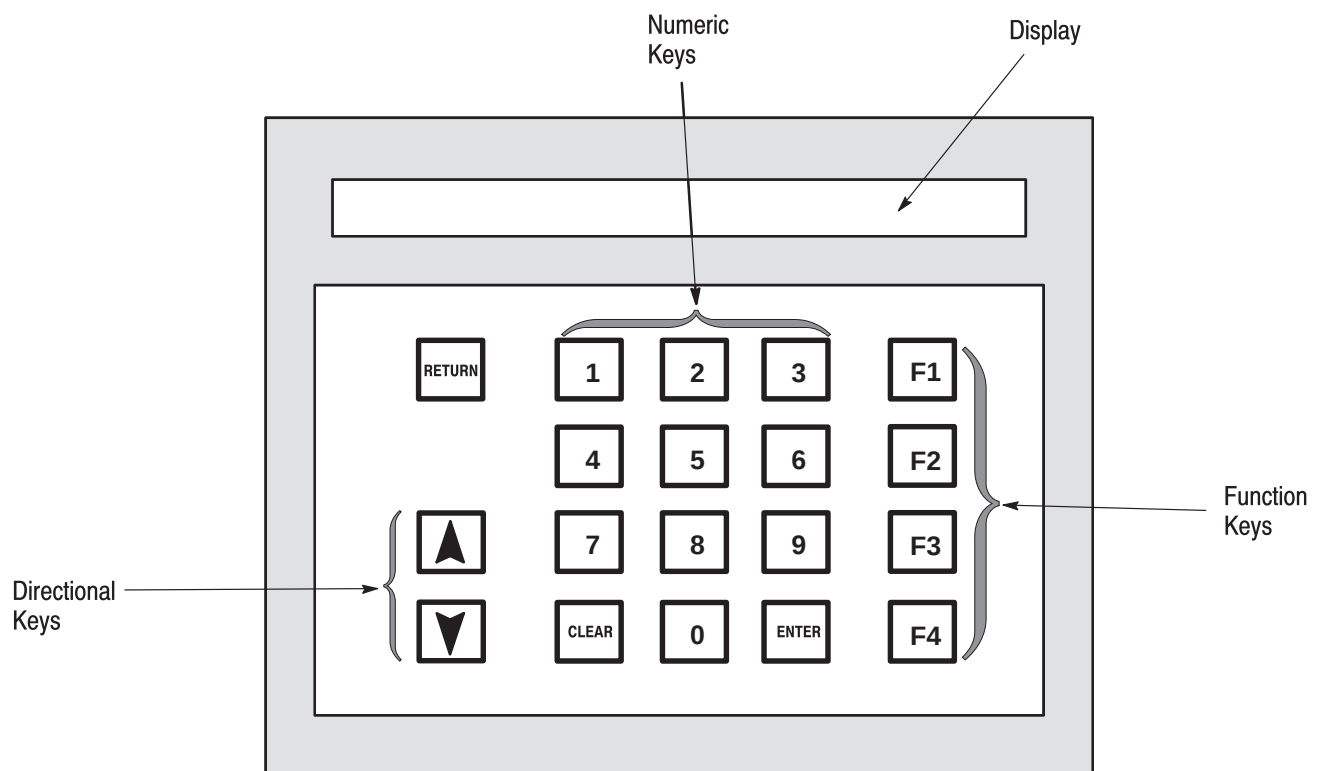

Figure 2
The control panel on the front of the module, shown in Figure 2, permits the operator to view and enter information vital to machine operation.
2.2. Control Panel Functional Description (Figure 2)